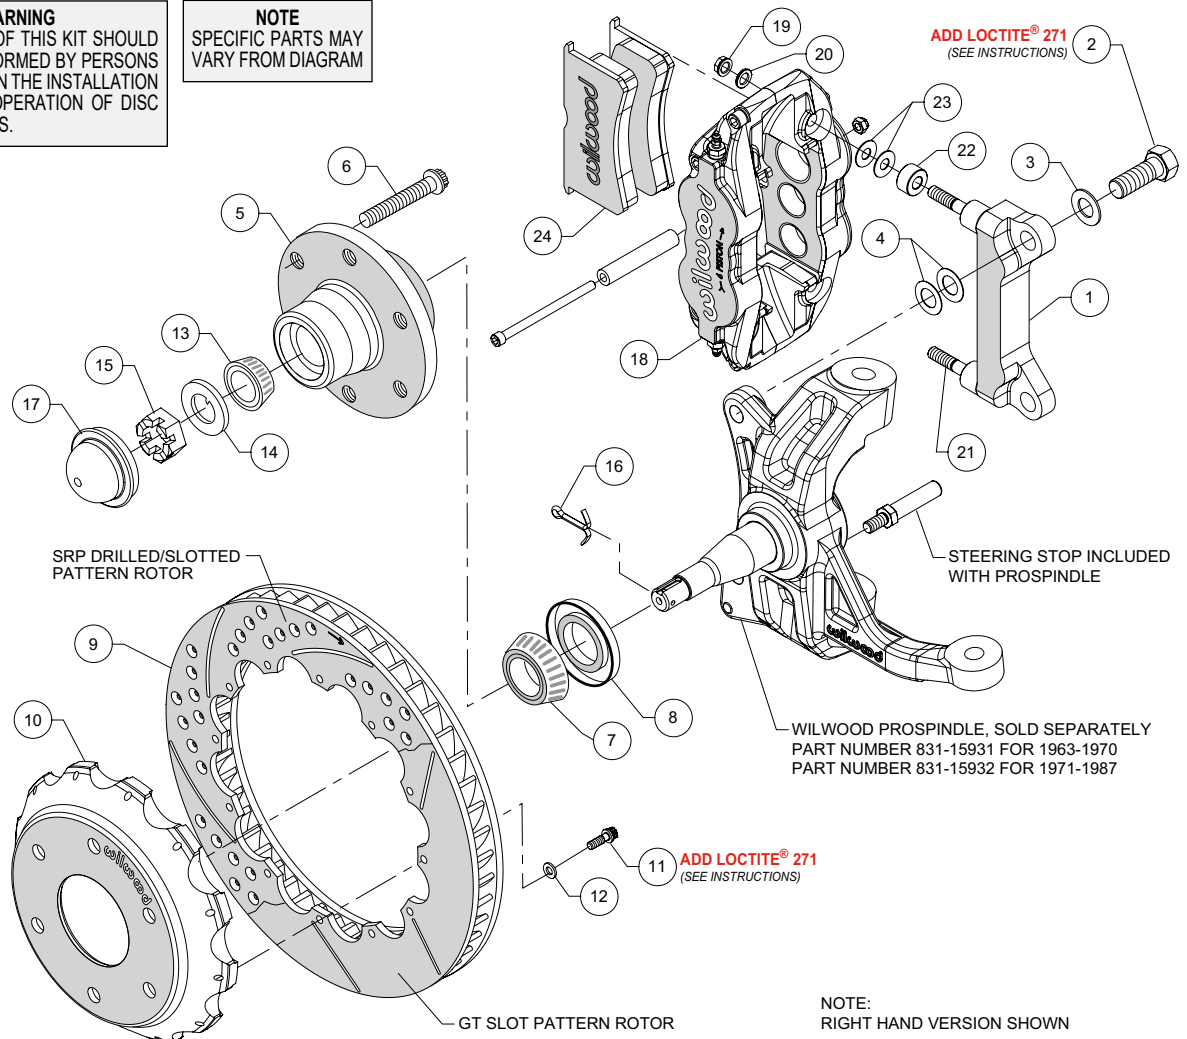
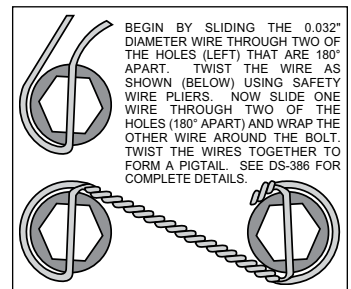

Figure 1. Typical Installation Configuration
Figure 3. Safety Wire Diagram
NOTE: Numbers in parenthesis refer to the parts list, and Figure 1 on the preceding pages.
- Install the steering stop bolt (included with the ProSpindle) into the spindle as shown in Figure 1 and Photo 1. Torque to 25 ft-lbs.
- The caliper mount bracket (1) should initially be installed with clean, dry threads on the mounting bolts. Orient the bracket, as shown in Figure 1 and Photo 2, and install using bolts (2) and washers (3). Initially place two .024" thick shim (4) on each bolt between the bracket and spindle, Figure 1. Temporarily tighten the mounting bolts. **NOTE:** *The bracket must fit squarely against the mount bosses on the spindle.* Inspect for interference from casting irregularities, machining ridges, burrs, etc. Later, after the caliper alignment has been checked, the mount bolts will be secured using red *Loctite*® 271.
- Install wheel studs (6) into the hub (5), Photo 3. Torque to 77 ft-lb.
- Pack the large inner bearing cone (7) with high temperature disc brake bearing grease (available from your local auto parts store) and install into the backside of the hub (5), Photo 4.
- Install the grease seal (8) by pressing into the backside of the hub (5), flush with the end of the hub, Photo 5.
- Pack the small outer bearing cone (13) with high temperature disc brake bearing grease and install into hub (5). Slide the hub assembly onto the spindle. Secure using spindle washer (14) and spindle nut (15), Photo 6. Adjust bearings per OEM specifications. Install a new cotter pin (16).
- Press the dust cap (17) into the hub (5). **NOTE:** *Do not hammer center of cap. Install using outer flange only.*
- Orient the rotor (9) and the hat (10) as shown in Figure 1 and Photo 7. Attach rotor to hat using bolts (11) and washers (12). Apply red *Loctite*® 271 to the bolt threads and torque to 155 **in-lb** using a criss-cross pattern. For an added measure of security, the bolts may be safety wired using standard 0.032 inch diameter stainless steel safety wire as shown in Figure 3. Refer to Wilwood's data sheet DS-386 (available at www.wilwood.com/Pdf/DataSheets/ds386.pdf) for complete safety wire installation instructions.
- Slide the hat/rotor assembly (10 and 9) onto the hub (5), Photo 8. **NOTE:** *The hat must fit flush against the hub face or excessive rotor run out may result.* Install three lug nuts (finger tight) to keep the hat/rotor assembly in place while continuing with the installation, Photo 8.
- **NOTE:** *This kit contains distinct right and left hand calipers that must be mounted in a specific direction, as described below.* Initially place two .035" thick shims (23) and one spacer (22) on each stud (21) between the caliper and the bracket, as shown in Figure 1 and Photo 9. Mount the caliper (18) onto the bracket (1) using lock nuts (19) and washers (20), Figure 1. Temporarily